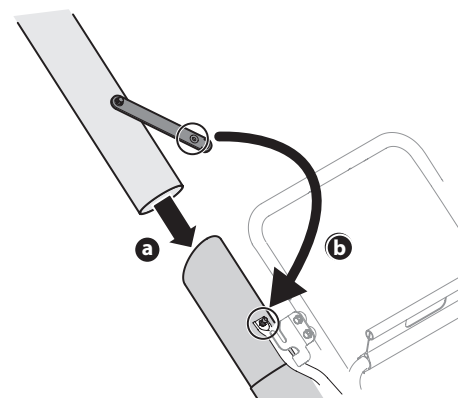

Figure 14
- Secure strap on hose extension to pin on hose assembly. See Figure 14.